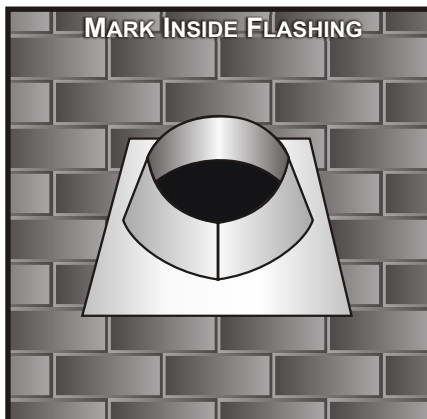

Figure 5
6. Locate the roof hole center point on the roof. Place the flashing over the hole as close to the center of the upper opening in the flashing as possible (**Fig 5**). Mark around the inside of the flashing with a crayon or pencil.